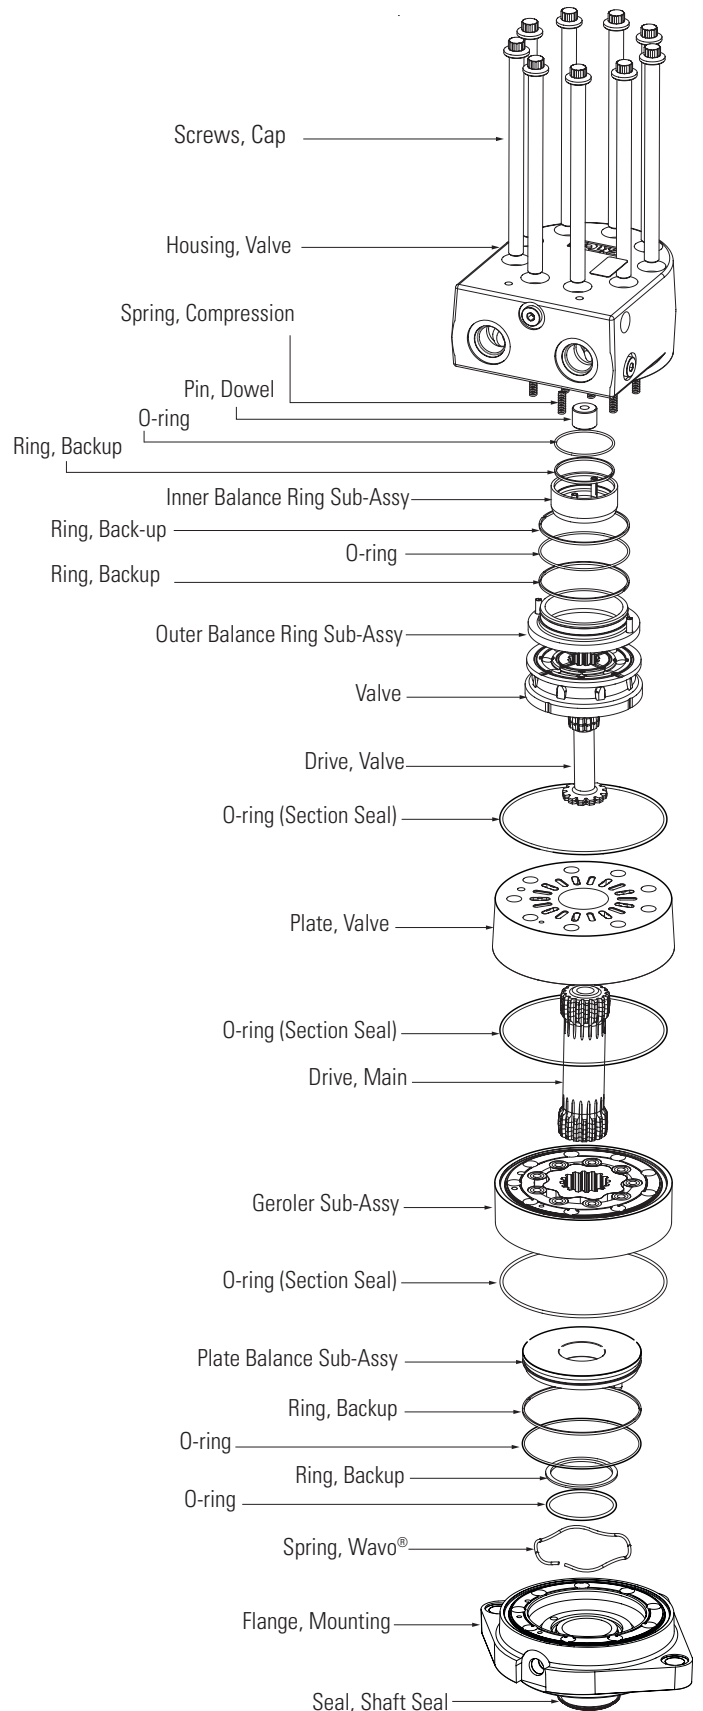

Figure 1A
- 3.0.2 Remove the 9 cap screws and disassemble the motor in the vertical position as shown in Figure 1A & 1B.